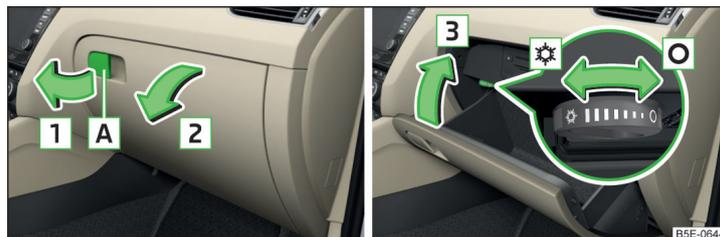

Fig. 89 Open storage compartment / close storage compartment and open air supply
- › To **open**, pull the handle **A** in the direction of arrow **1** and fold the cover in the direction of arrow **2** » Fig. 89.
- › To **open**, turn the rotary switch until it stops in the position  » Fig. 89.